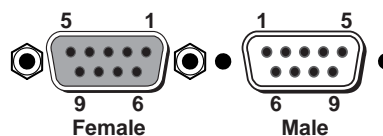

Figure 2-5 — Remote port pin assignments
- ⑥ **Remote port** — Connect a host device, such as a computer or touch panel control, to the Digital Display Scaler via this 9-pin D connector for serial RS-232 control (figure 2-5).
- ⑥ **Remote port** — The Remote connector also provides a way to select an input using a remote contact closure device. Contact closure control uses pins on the Remote connector that are not used by the RS-232 interface (figure 2-5).